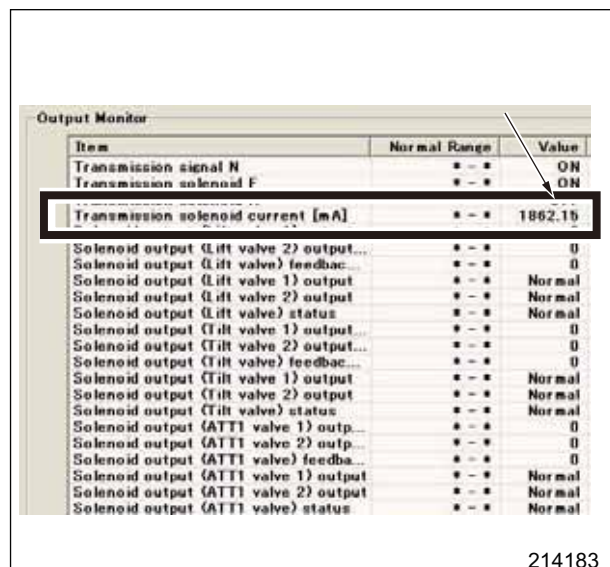

Fig. 2-11 Output monitor screen
- (7) Press the output monitor button in the service tool screen to display the output monitor screen (Fig. 2-11), and make sure that the T/M control valve current is 2 (A) or around on the screen.